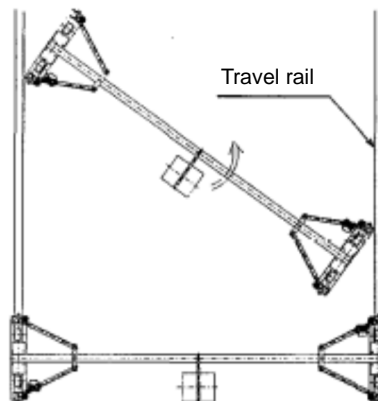

Fig. 3
- (a) Generally, the simple way to erect the completed crane is shown in Fig. 3. Lift crane into position of following figure, then turn the crane so as to fit on the travel rails.